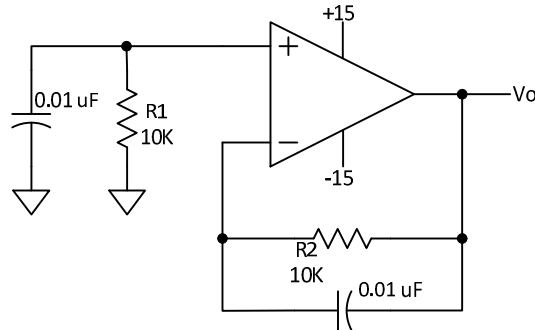

Figure 2: Op-amp test circuit
- 1.2 Connect the circuit in Figure 2, apply power, and confirm that the output voltage is less than 0.1 volts in magnitude (could be positive or negative). There is a major error in the circuit if the voltage is greater. Do not continue until the problem is resolved as any data taken on a non-working circuit is meaningless. The purpose of the capacitors in the circuit is to minimize the likelihood of the amplifier oscillation when the voltmeter is connected in various ways.